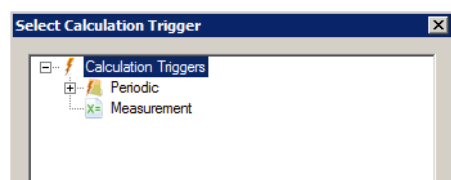

Figure 3 Select the Measurement Trigger
4. Click on the button for the Trigger path selection to open the trigger browser as shown in Figure 3.